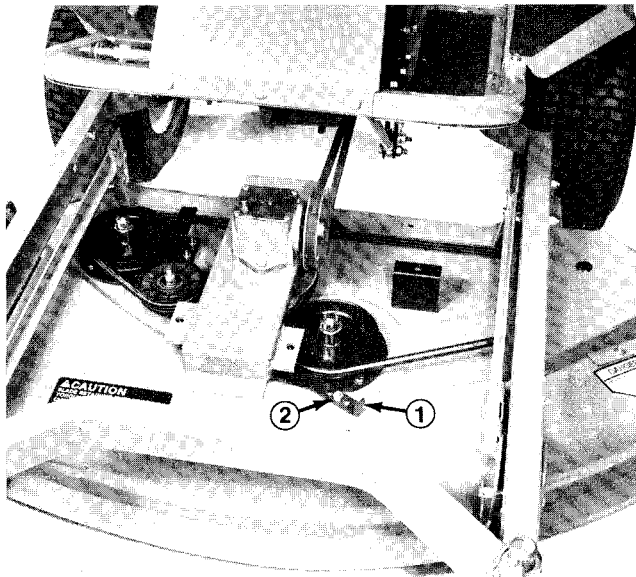

Figure 1
2. Remove nut securing spring anchor to capscrew in deck. Lift anchor off capscrew and allow belt to relax (Fig. 1).